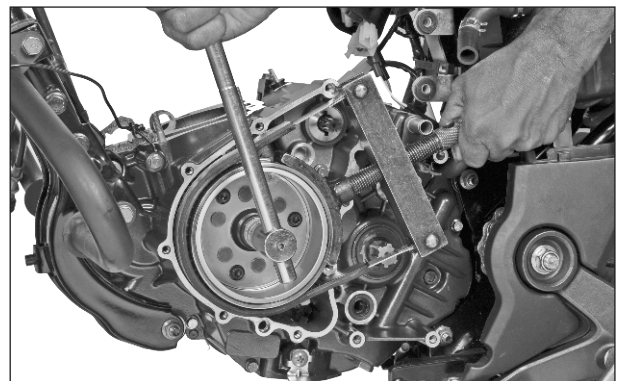

Fig. 3.130
- Using the special tool, hold the rotor assembly and remove the rotor assembly mounting hexagonal flange nut (M12x1.25). (Fig. 3.130)